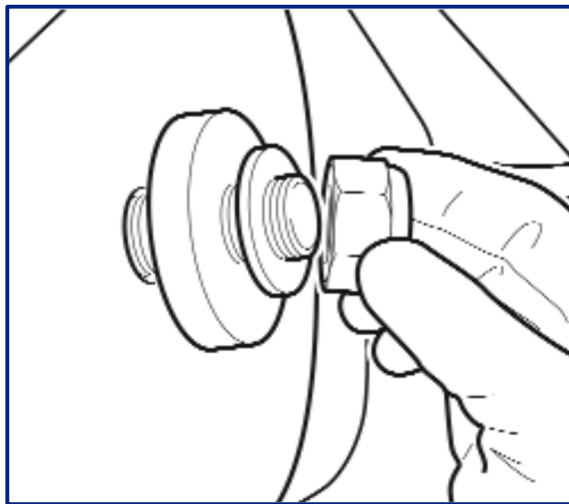

Fig 12
7. Remove the pivot bolts and alignment bosses from the hanger bracket (Fig 12).